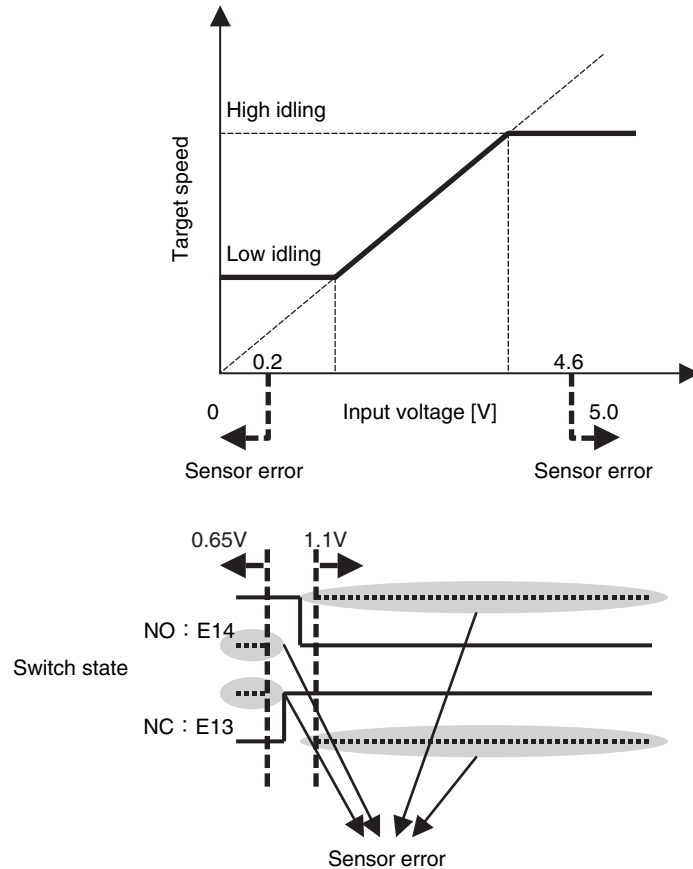

**Figure 2-33 Foot pedal operation**
**Figure 2-33** shows the foot pedal operation and engine speed. When the flag is set to 2, the input voltage at terminal APS or REAN is effective only when APP-IP2: NO is low and APP-IP7: NC is high. Otherwise, the engine runs at low idling speed.